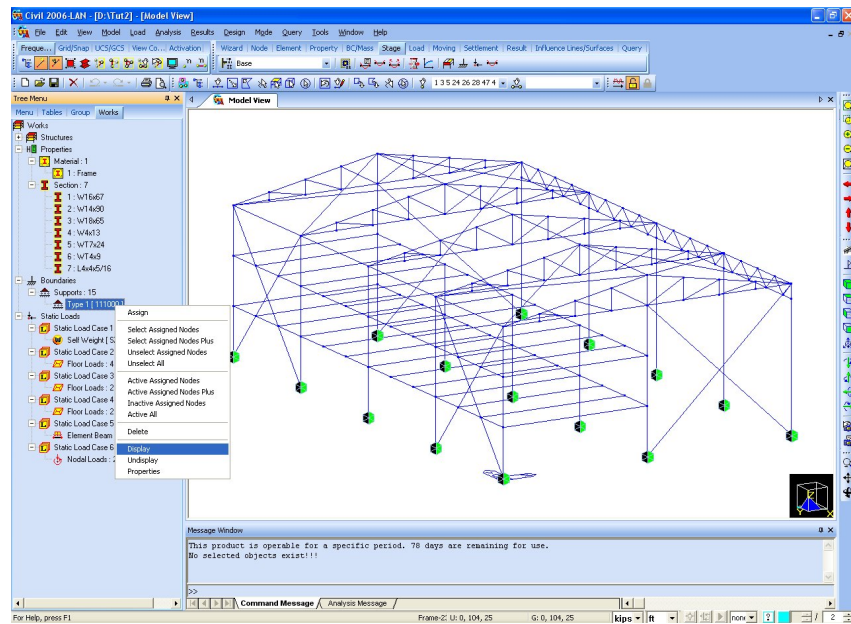

Figure 2.26 Confirmation of Support Condition using Works Tree
4. Confirm the entered support condition of the model as shown in Fig.2.26.